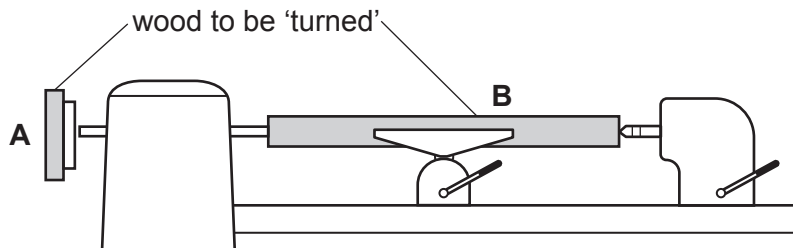

Fig. 7.1
- 7 Fig. 7.1 shows two pieces of hardwood, **A** and **B**, set up, ready to be 'turned' on a woodturning lathe.